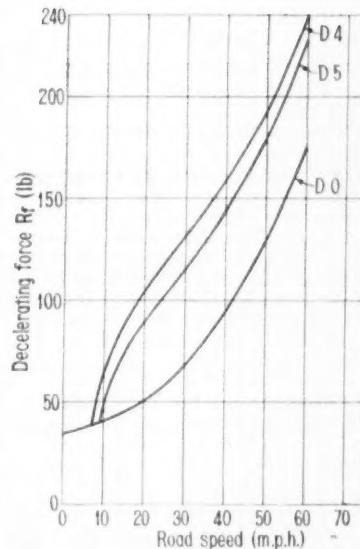

Fig. 8. Decelerating force in various cases
Fig. 8 shows three cases in which the vehicle is decelerated from 60 m.p.h. (D5, D4 and D0). The curve D0 is continued until the vehicle is at rest and at this point the decelerating force is obtained from equation (1) as: